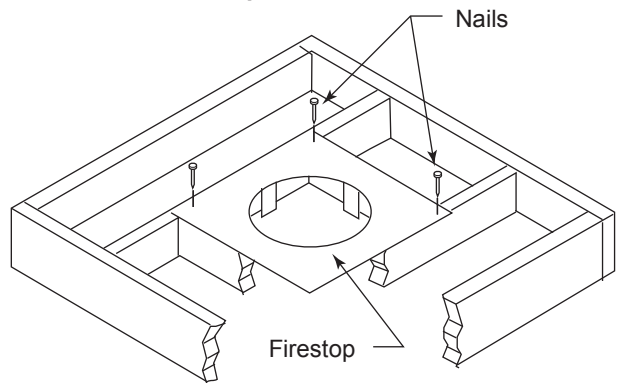
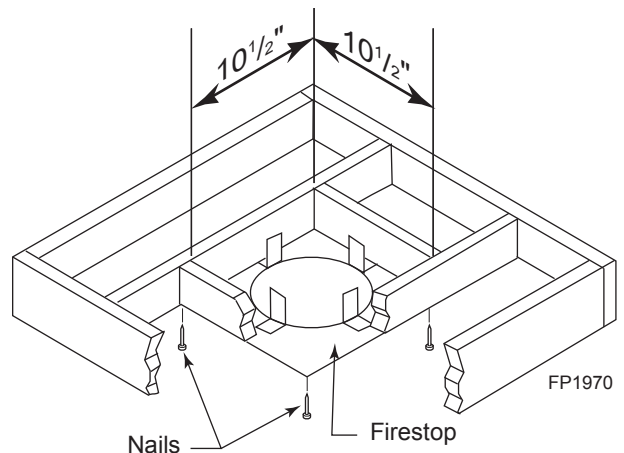

Figure 21 - If Area Above is a Room, Install Firestop above Framed Hole as Shown
Figure 22 - If Area Above is Not a Room, Install Firestop above Framed Hole as Shown
1. Cut a 10 1/2" (241 mm) square hole in the ceiling using the locating hole as a center point. The opening should be framed to 10 1/2"x10 1/2" (241 x 241 mm) inside dimensions as shown in Figure 22 using framing lumber the same size as the ceiling joist. If the area above the ceiling is an insulated ceiling or a room, nail firestop from the top side. This prevents loose insulation from falling into the required clearance space. Figure 21. Otherwise, install firestop below the framed hole. Figure 22